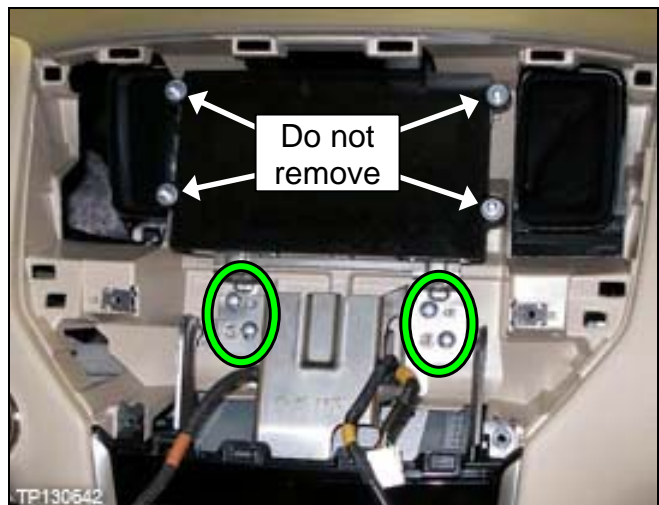

Figure 38
32. Remove the four (4) screws, and then remove the metal bracket (see Figure 38).